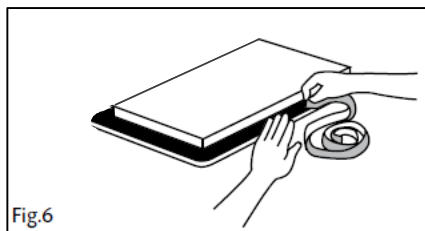

Fig.6
2. Position the hob seal, as shown in Fig.6, ensuring that the ends meet without overlapping. Do not use silicone type sealant.